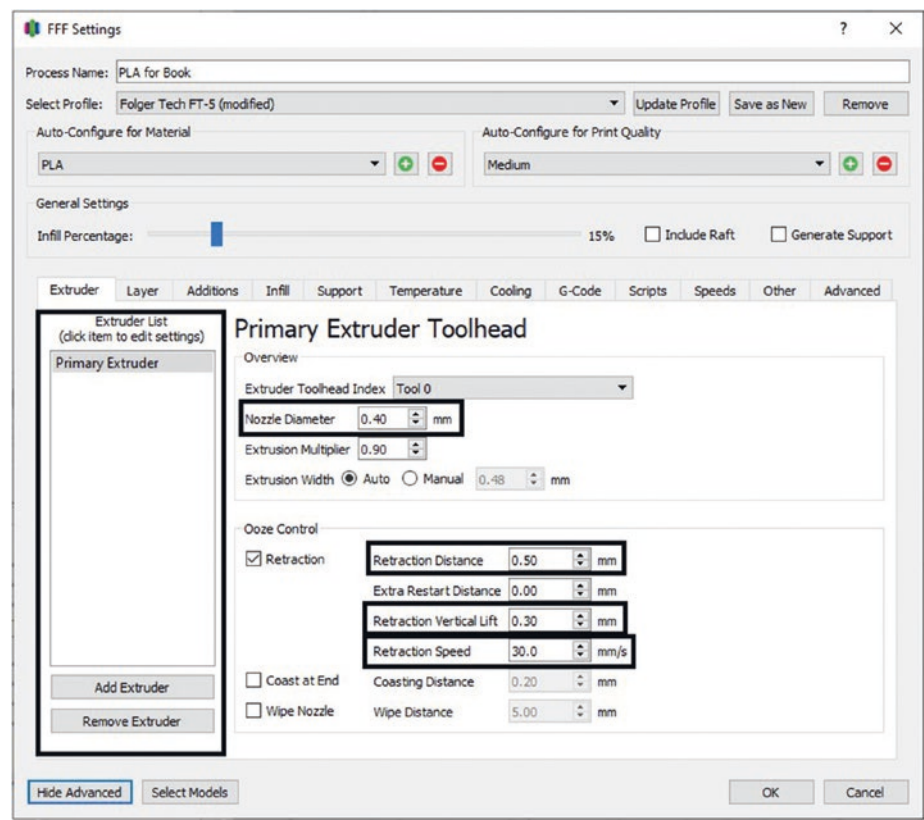

Figure 4-19. *Extruder tab*
1. Tab 1: Extruder (see Figure 4-19)